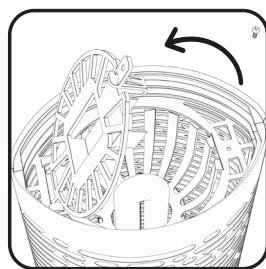

Fig. 2
4. Lift up the grate panel. (Fig. 2)